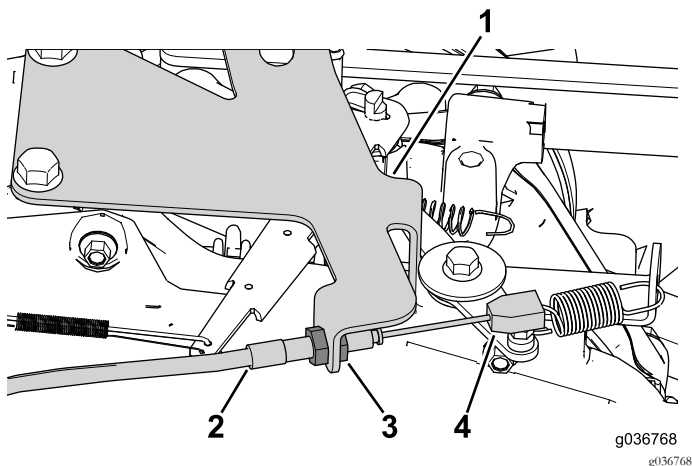

Figure 33
1. Use the jam nuts on the cable to adjust and secure the cable to the bracket (Figure 33).